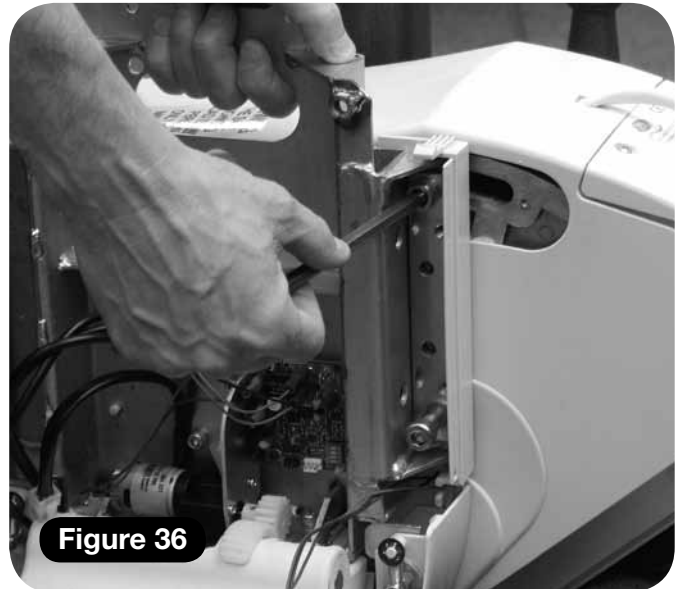

Figure 36
- 5 Offer the seat chassis to the power unit, and using the bolts and spacers secure the seat chassis to the power unit, ensuring that the chassis is in the correct vertical alignment (**Figure 36**).